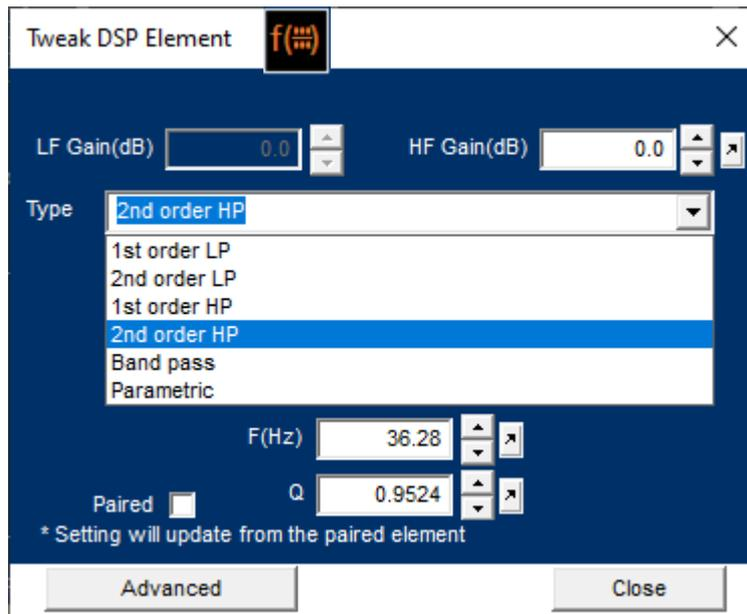

Figure 23 - General DSP Element with 2nd order HP selected
Therefore, we can optimize the low frequency response using this information. In the 2-way system a High Pass (HP) filter was inserted at 36.28 Hz to attenuate the very low frequencies where the total response has dropped anyway, see Figure 23. The HP filter was found in the general DSP function, which was dragged into the global field: